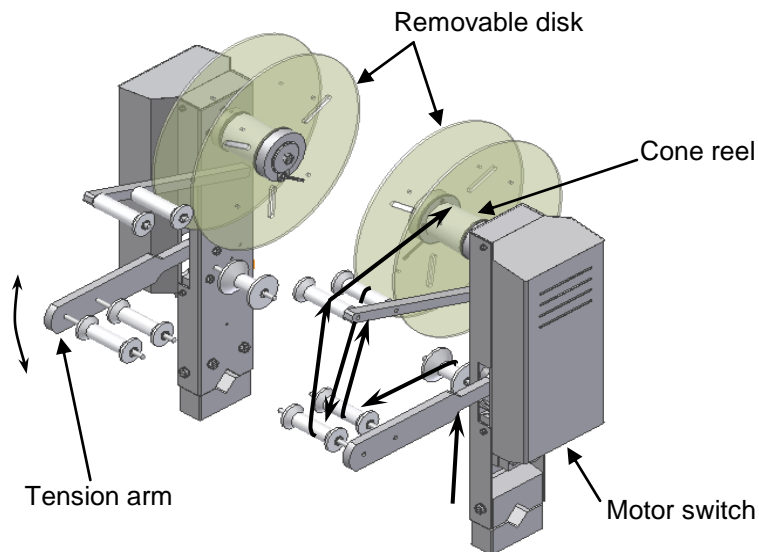

Figure 3.34 Film edge trim rewind unit
- Film edge trim rewind unit (see Figure 3.34).
First run machine until the edge trim is out of the machine by ca. 2 metres then turn off each motor switch to stop the motors. Route the strip by following the arrows (see Figure 3.34), wrap up the strips by hand twice around each cone reel, switch on each motor and the motor will run till the tension arm comes up to release the photoelectric sensor.